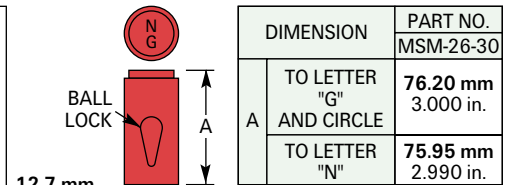

FIGURE 2.
- The Registry Marker has a raised circle with the letters “N” and “G” located within, raised to different levels (see Fig. 2).